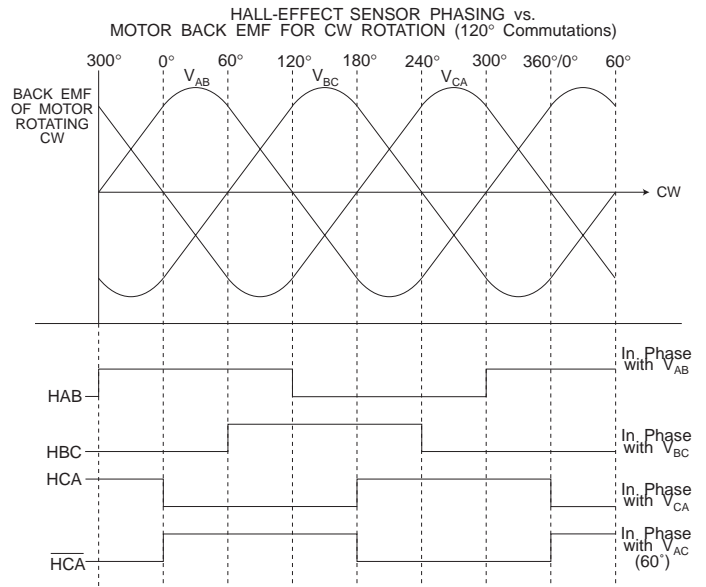

FIGURE 9. HALL PHASING
The UC2625 will operate with Hall phasing of 60° or 120° electrical spacing. If 60° commutation is used, then the output of HCA must be inverted as shown in FIGURES 9 and 10. In FIGURE 9 the Hall sensor outputs are shown with the corresponding back EMF voltage they are in phase with.
12. Connect Hall sensor inputs to motor shaft position sensors that are 120 electrical degrees apart. Motors with 60 electrical degree position sensor coding can be used if one of the position sensor signals are inverted (See FIGURES 9 and 10).